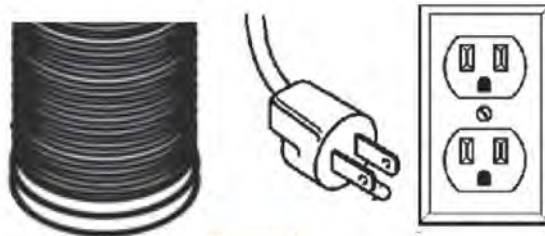

Figure 4
7. The hood comes with a grounded 3-prong plug that must be plugged into a dedicated 15-amp circuit. The cord is 36" (914 mm) long. *Figure 4*